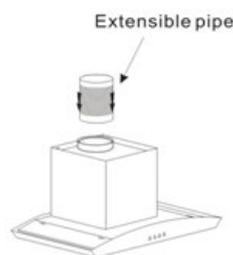
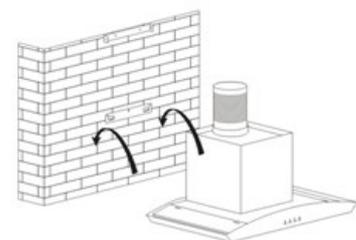

Fig. 04
Fig. 05
3. Fix the extensible pipe according to the lead direction and way, and then put the cooker hood on the hook (Fig. 04 and Fig. 05).